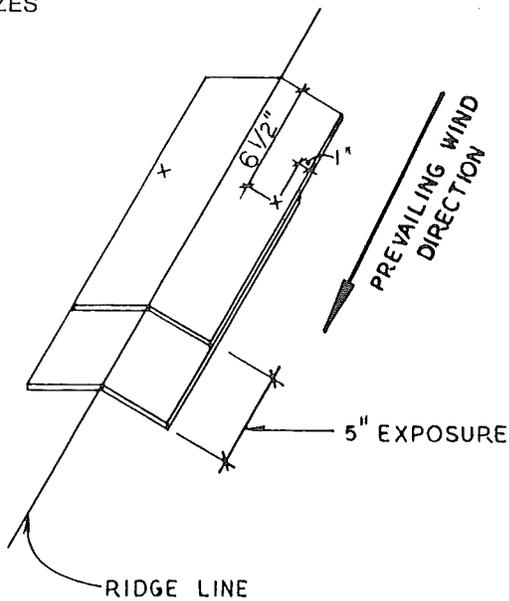

Fig. 18
**NOTE: TO PREVENT WIND LIFTING AND POSSIBLE LEAKAGE, THE RIDGE CAP SHINGLES SHOULD BE ORIENTED WITH RESPECT TO PREVAILING WINDS AS INDICATED IN FIG. 18.**